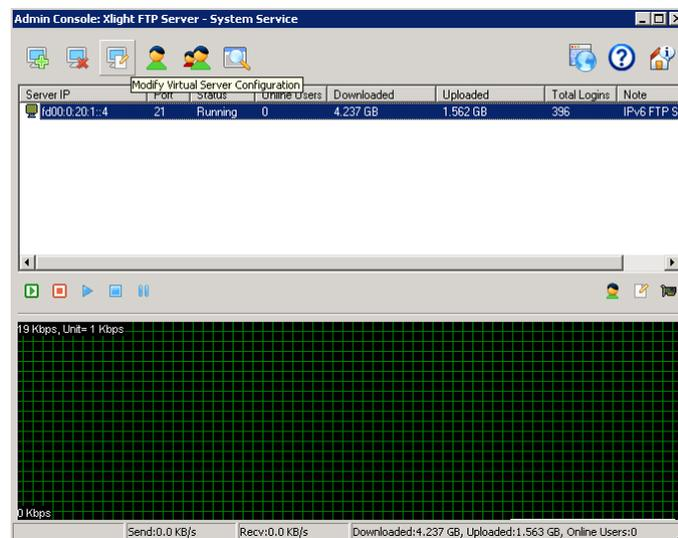

Figure 2-13: Modify Virtual Server Configuration Button
- Select the **fd00:0:20:1::4** IPv6 server and click the **Modify Virtual Server Configuration** button, as shown in Figure 2-13.